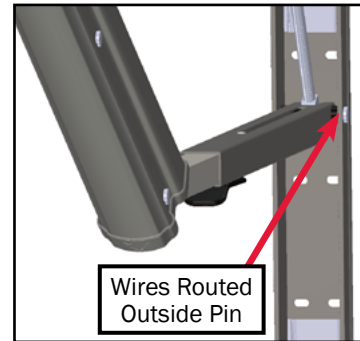

Figure 10
**NOTE:** Make sure all wires are routed on the outside of the pin that secures the pitch arm to the mount arm (Figure 10) to prevent pinching of the wires.